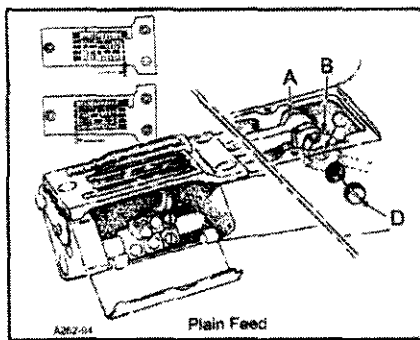

FIG.10
The feed should be set so there is equal clearance between the front of the feed dog and the front of the feed slot in the throat plate when the feed dog is at its most forward travel. The same amount of clearance should be between the back of the feed dog and the back of the feed slot in the throat plate when the feed dog is at its most rearward travel. To attain this setting loosen screws (A and B, Fig. 10) and remove plug screw (D). Using a screw driver turn eccentric pin (C) clockwise or counterclockwise to obtain proper setting. Tighten screws (A and B), reinstall plug screw (D).